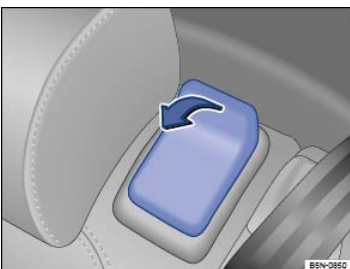

Fig. 82 In the second row: Entry assistance lever.
- Remove any objects from the second row seat footwell ⇒ ①.
- Pull the lever ⇒ *Fig. 82* up and toward the front of the vehicle (arrow).
- Pull the lever ⇒ *Fig. 82* toward the front of the vehicle in the direction of the arrow and fold the second row backrest into the upright position ⇒ ▲.